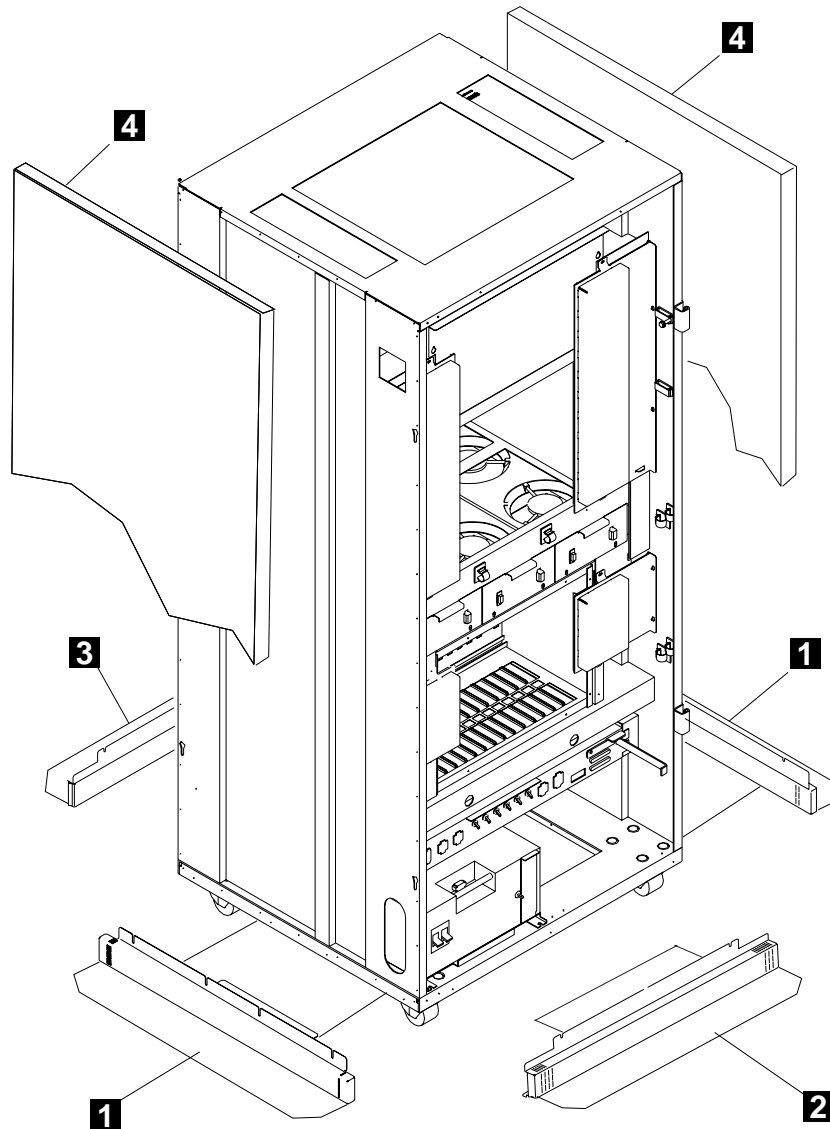

Figure 5-2. 3746-950 Ground Brackets (Front View)
Step 1. \_\_\_\_ If installed, remove the two covers **4** by loosening their mounting screws (refer to Figure 5-2).